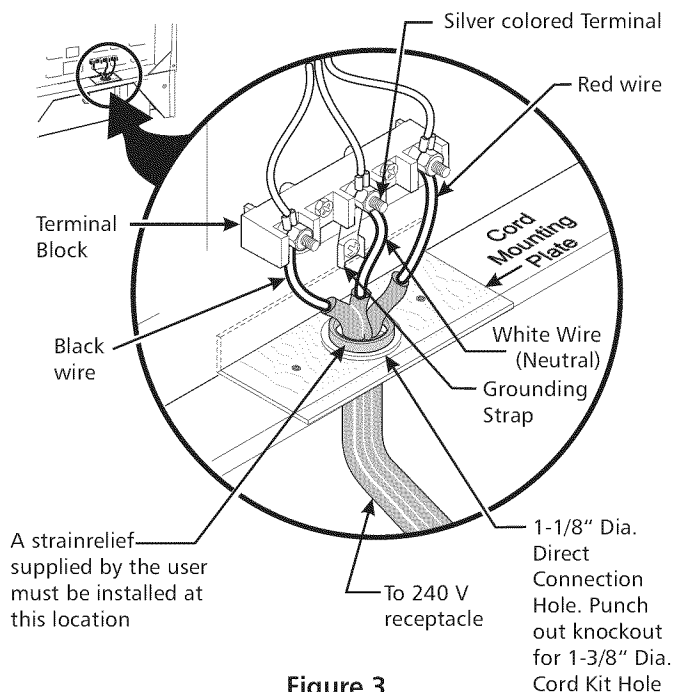

Figure 3
**NOTE:** Electric Slide-in Range is shipped from factory with 1 1/8" (2.9 cm) dia. hole as shown on figure 3. If a larger hole is required, punch out the knockout.
(The 3-conductor cord or cable must be replaced with a 4-conductor cord or cable where grounding through the neutral conductor is prohibited in new installations, mobile homes, recreational vehicles or in other areas where local codes do not permit neutral grounding) If local codes permit connection of the frame grounding conductor to the neutral wire of the copper power supply cord (see Figure 3):